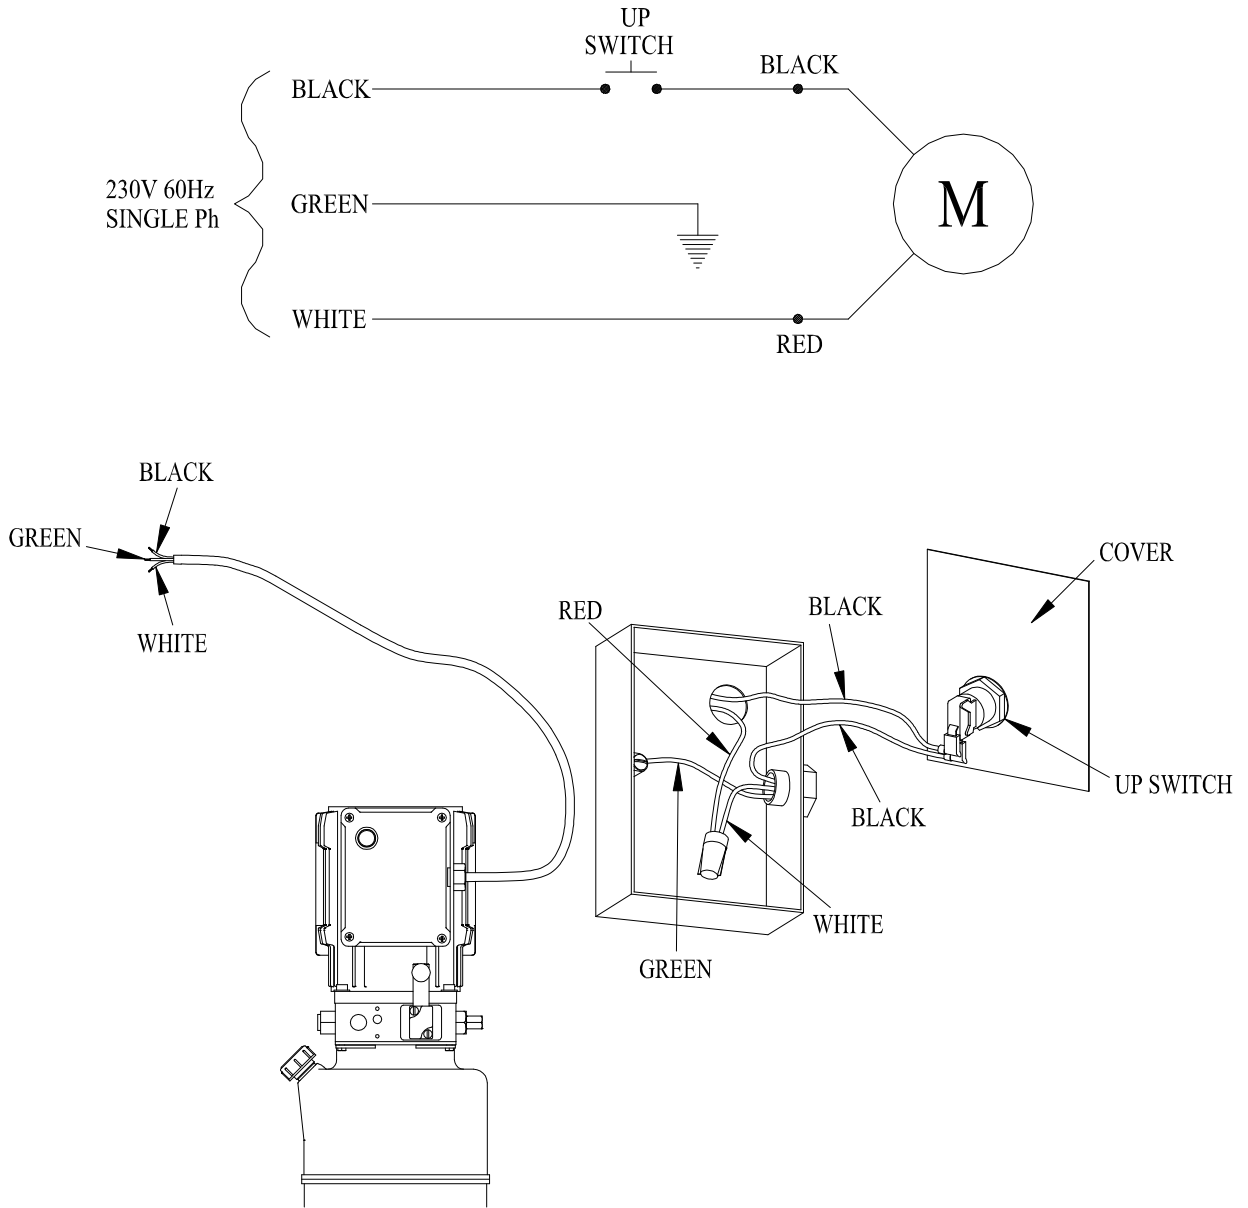

Figure 7
- \* Have a certified electrician establish 208-230V, single phase, 60 Hz power supply with 20 amp time delay fuse to motor and overhead switch, figure 7.